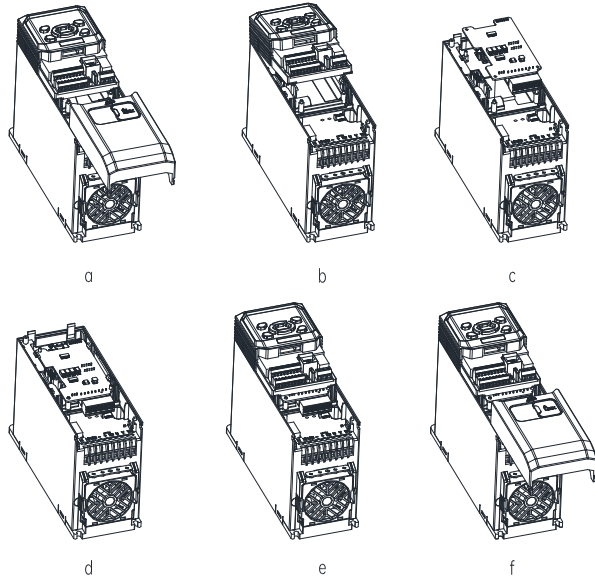

Fig. 6 PG card installation steps
- When the drive is powered off, press the granulated part on the middle-upper of the lower cover, slide it down firmly to take down the cover, as shown in Fig. 6 a.
- Use a straight screwdriver to pry open the two snap-fit joints between the control box and the drive, and then remove the control box upwards, as shown in Fig. 6 b and c.
- Install the PG card: hold the PG card with its terminal block downwards, then align the three round holes on the PG card with the location column, and press down to buckle the PG card firmly into the four snap-fit joints, as shown in Fig. 6 d.
- After the PG card is installed, align the control box with the snap-fit joints, and press down the control box to make its lower part firmly buckled, then slide the lower cover to lock it on the drive, as shown in Fig. 6 e and f.